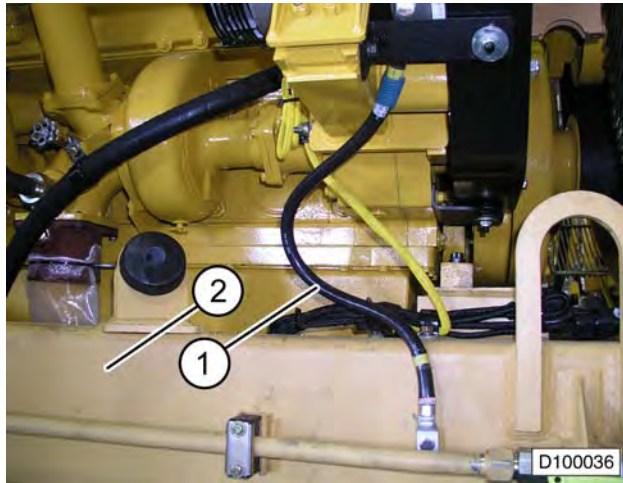
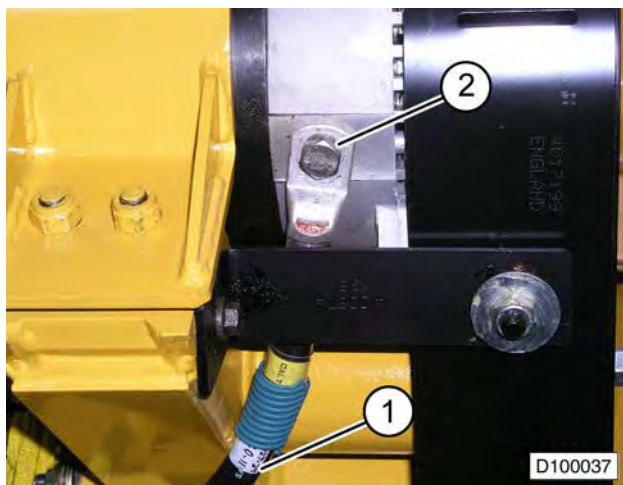

FIGURE 10-19. GROUND STRAP
FIGURE 10-20. GROUND STRAP CONNECTION
- Remove ground strap (1, Figure 10-19) from the alternator by removing cap screw (1, Figure 10-20). It is not necessary to completely remove the ground cable unless it is damaged and must be replaced.